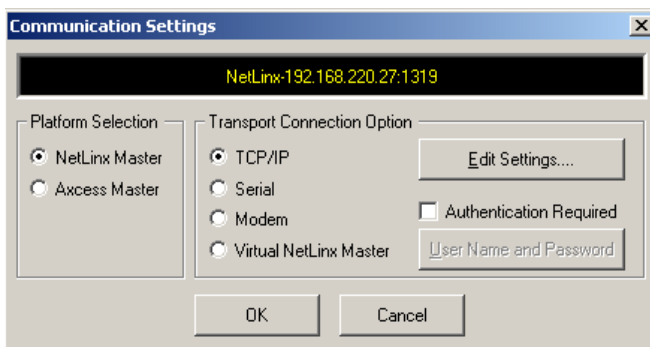

FIG. 43 NetLinx Studio - Communications Settings dialog
3. Click **Communications Settings** to open the *Communications Settings* dialog (FIG. 43).